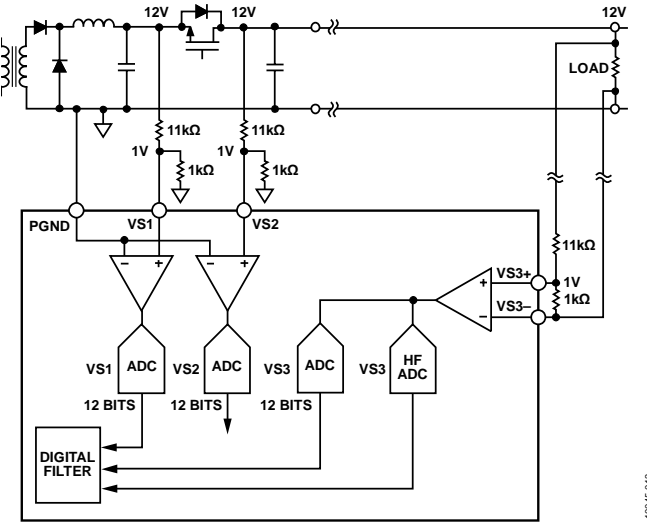

Figure 16. Voltage Sense Configuration
VS1 is used for the monitoring and protection of the power supply voltage at the output of the LC stage, upstream of the OrFET. The VS1 sense point on the power rail needs an external resistor divider to bring the nominal input voltage to 1 V at the VS1 pin (see Figure 16). The resistor divider is necessary because the VS1 ADC input range is 0 V to 1.6 V (12-bit reading). This divided-down signal is internally fed into a low speed Σ - Δ ADC. The output of the VS1 ADC goes to the digital filter and is also updated in Register 0x15 every 10 ms. The VS1 signal is referenced to PGND. When the OrFET is turned off, the power supply is regulated from the VS1 sense point instead of the VS3± sense point.
VS2 is used in conjunction with VS1 to control the OrFET gate drive turn-on. The VS2 sense point on the power rail needs an external resistor divider to bring the nominal common-mode signal to 1 V at the VS2 pin (see Figure 16).
VS3± is used for the monitoring and protection of the remote load voltage. VS3± is a fully differential input that is the main feedback sense point for the power supply control loop. The VS3± sense point on the power rail needs an external resistor divider to bring the nominal common-mode signal to 1 V at the VS3± pins (see Figure 16). The resistor divider is necessary because the VS3 ADC input range is 0 V to 1.6 V. This divided-down signal is internally fed into a high frequency (HF) ADC. The output of the VS3 ADC goes to the digital filter and is also updated in Register 0x17 every 10 ms. The HF ADC is also the high frequency feedback loop for the power supply.